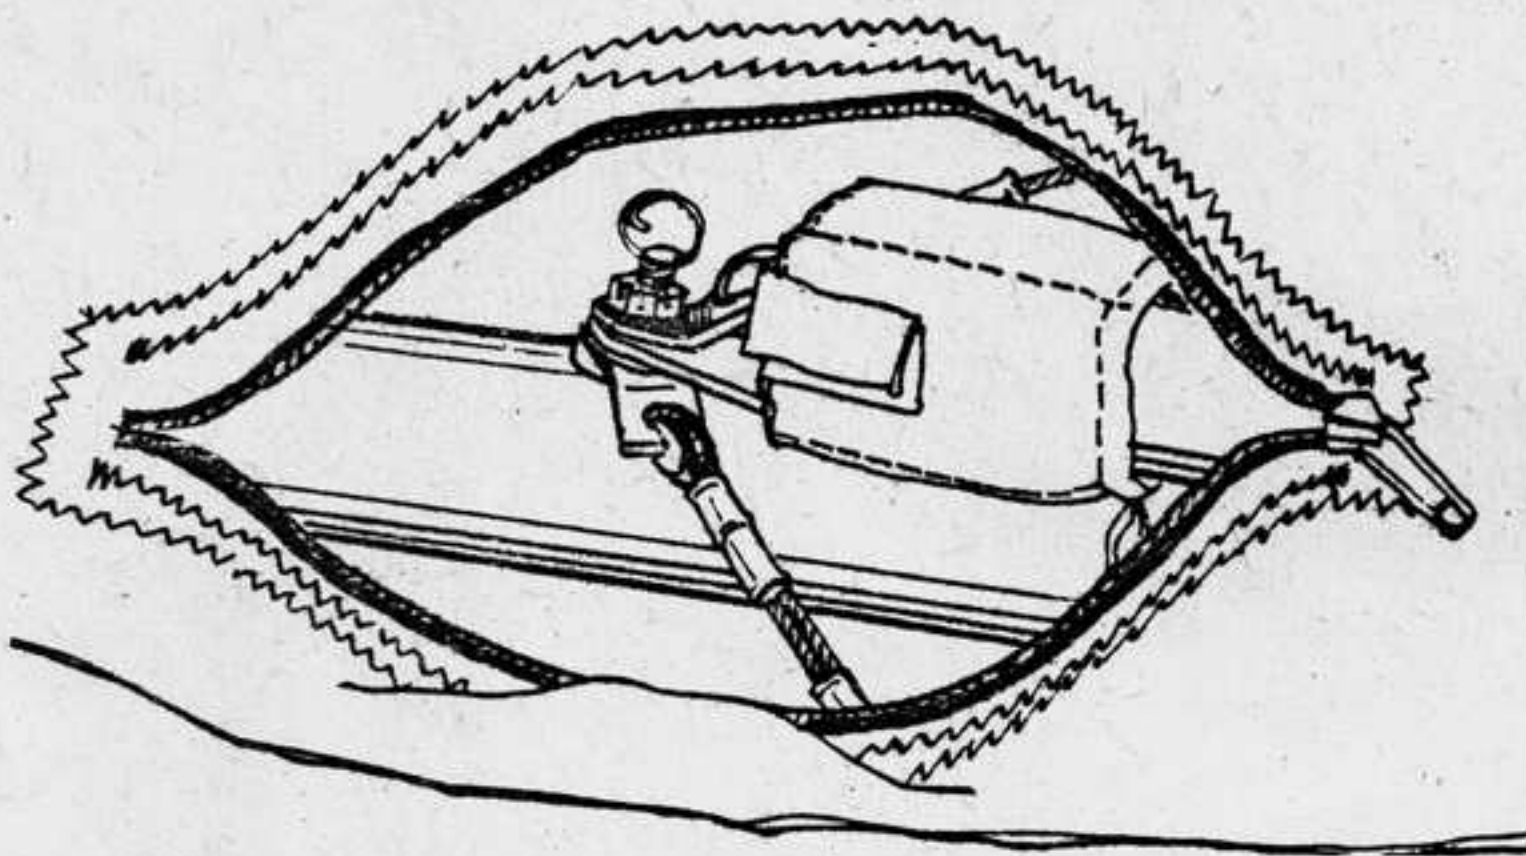

Fig.6
2.2.4. Look through the open bottom surface pockets near the Xbar/LE junction and check that this junction is assembled properly and safely secured with the nut and the safety ring (fig.6). Zip the zipper near the Xbar/LE junction.